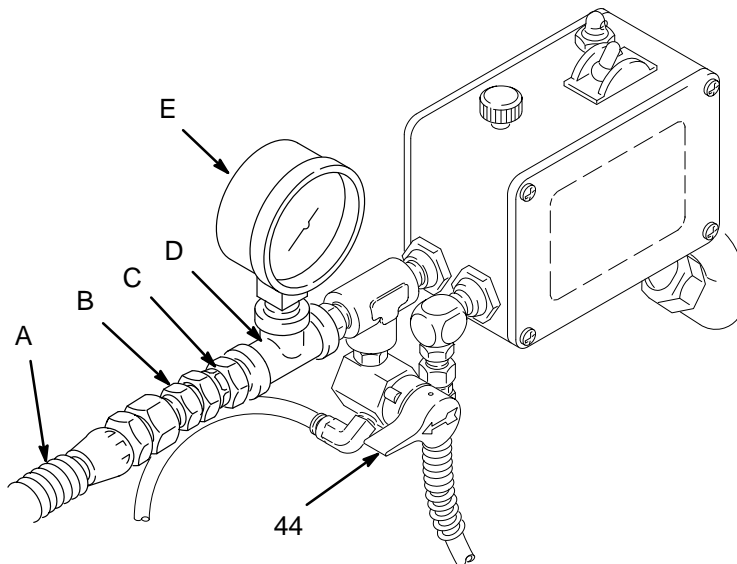

Fig. 21
See Fig. 21.
1. Remove the old spray hose. Install the new hardware and hose as shown in Fig. 21. On the other end of the hose install the needle valve.